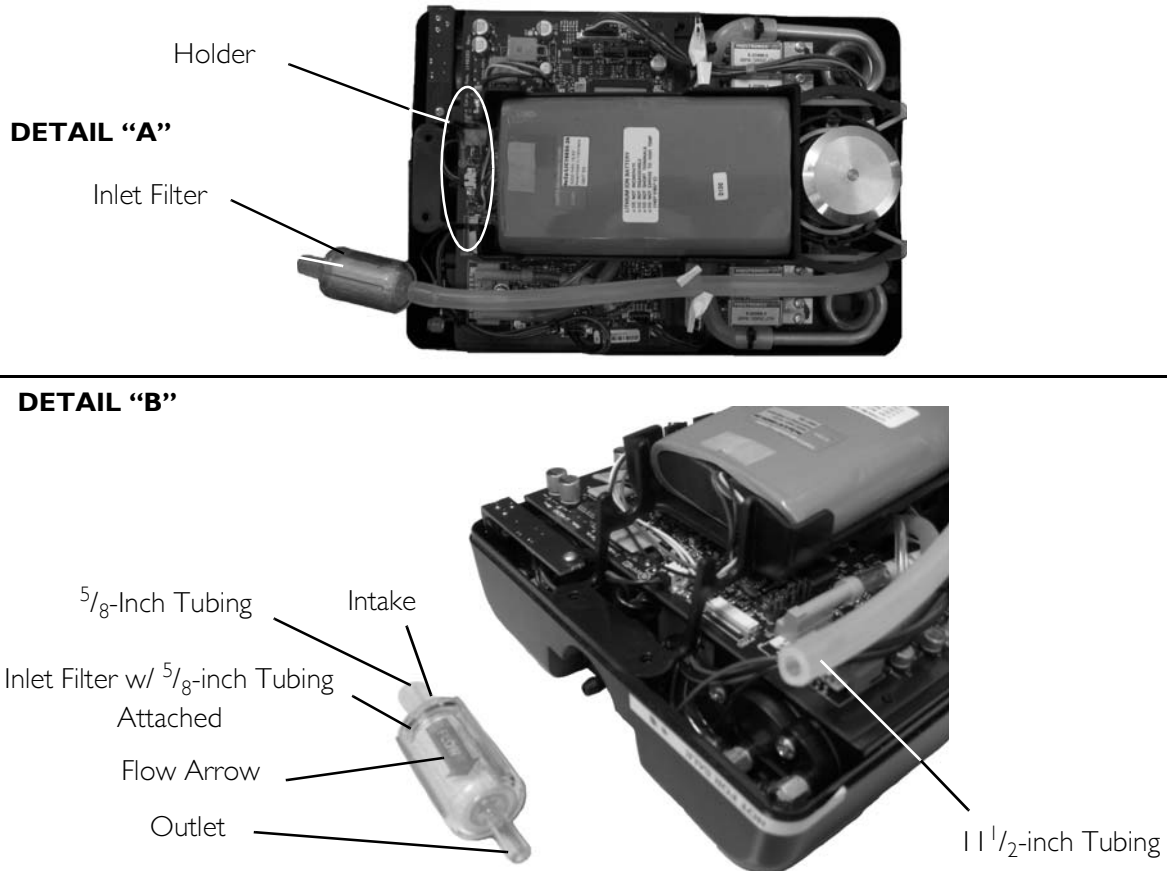

FIGURE 2.4 Replacing the Inlet Filter
NOTE: For this procedure, refer to FIGURE 2.4 and FIGURE 2.2 on page 10.
- Connect the 11½-inch tubing to the outlet of the inlet filter (Detail “A” of FIGURE 2.4).